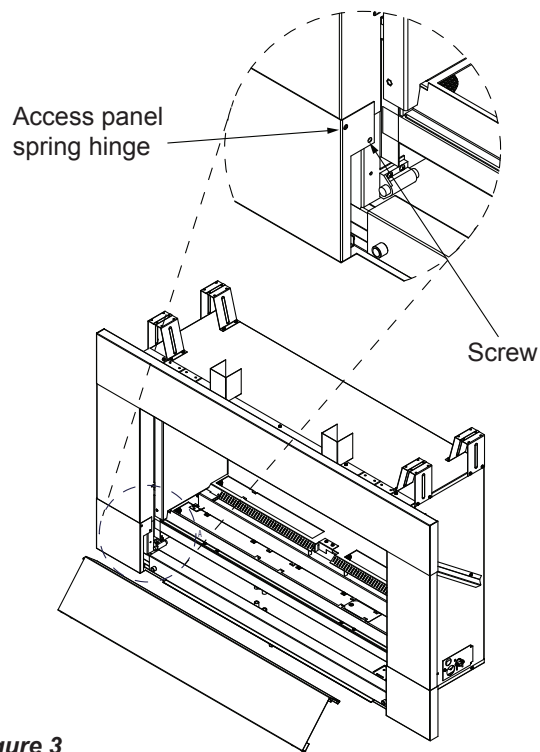

Figure 3
6. Locate the two screws inside the bottom panel. See Figure 3. Tighten slowly only until gap is eliminated using supplied #8 x 3/8" .
9. Install face by inserting tabs on face into slots on front of firebox. Secure with four (4) supplied screws on both bottom tabs and both top tabs. Reinstall top three interior screws.
10. Reinstall original screen frame and the replacement access panel. *Figure 3*